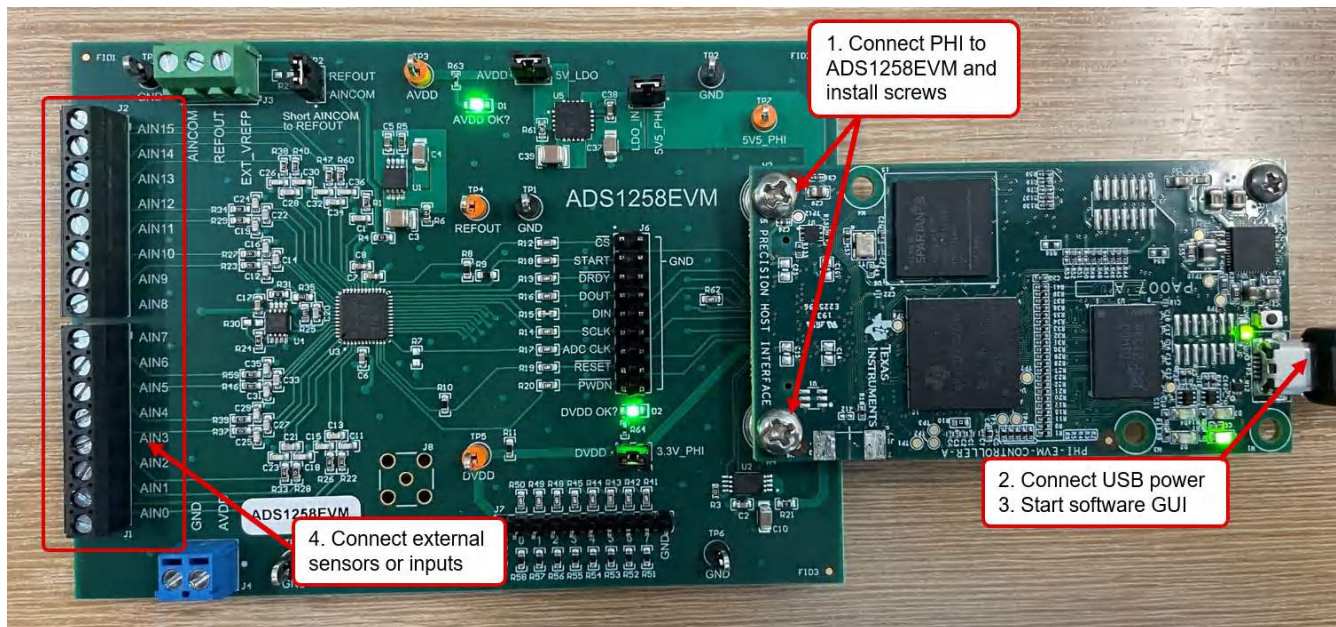

Figure 7-1. ADS1258EVM Hardware Connections
2. If necessary, connect the PHI board to the ADS1258EVM (see Figure 7-1).
Connect the EVM as shown in Figure 7-1 after installing the software:
- b. LEDs D1 and D2 on the PHI start blinking to indicate that the PHI is booted up and communicating with the PC. Figure 7-1 shows the resulting LED indicators.